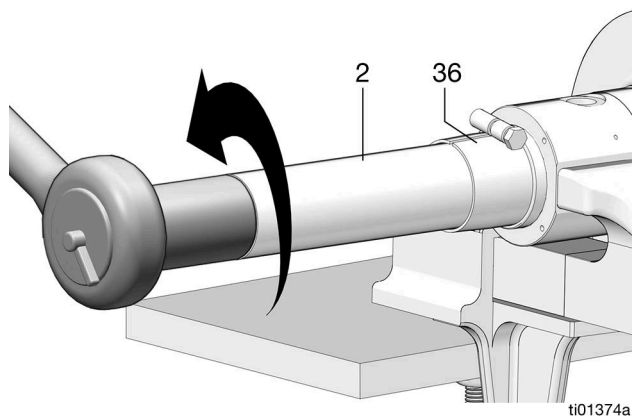

FIG. 10
11. Use a 1 - 13/16 in. socket to remove the pump cylinder (2) (FIG. 10).